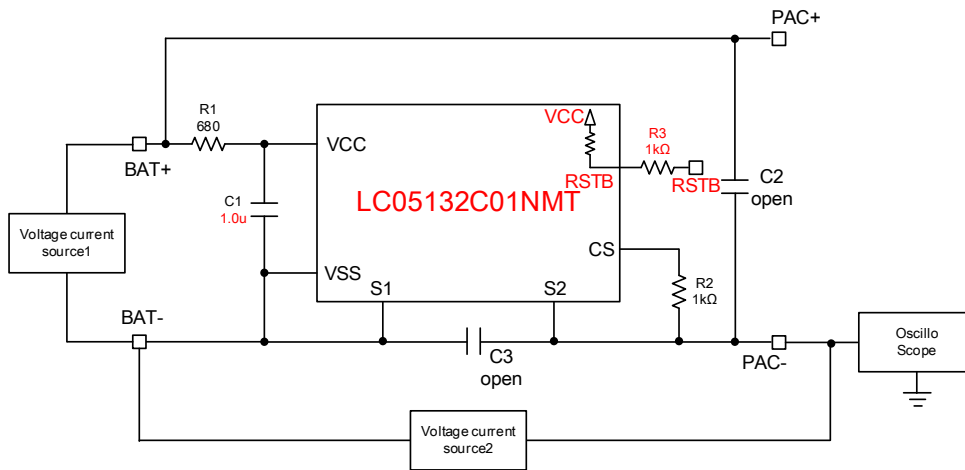

Figure1. LC05132C01NMTGEVB Recommended Test Set Up for Charge/Discharge Voltage detection
1. Connect **LC05132C01NMTGEVB** like upper Figure1.